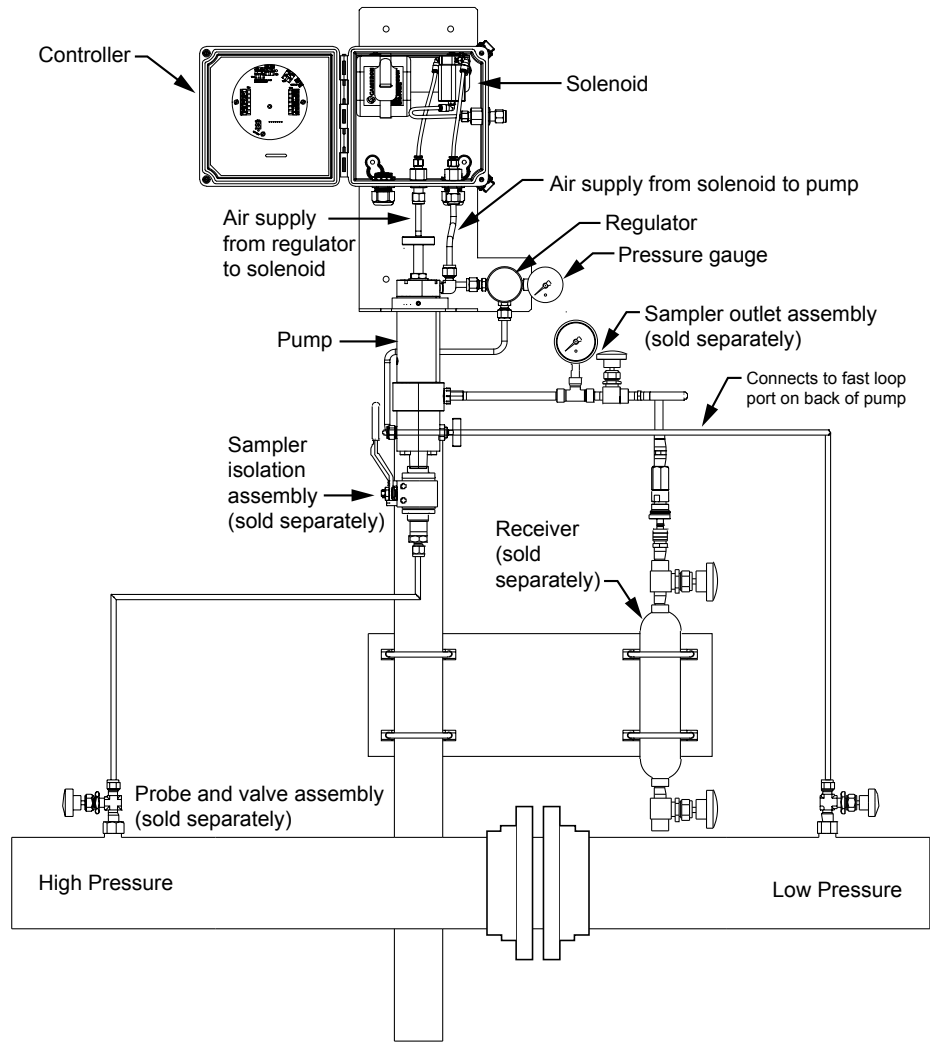

Figure 2.5—Remote-mount installation, shown with optional fast-loop connections
7. If a fast loop connection is required, connect the reinjection line fitting in the side of the purge valve manifold to the low-pressure side of the orifice fitting in the pipeline as shown in Figure 2.5, page 15. See Figure 2.3 for the location of the fast-loop reinjection line fitting. Also see the LGS-1 Sample Pump User Manual, Part No. 9A-99104500147, for additional details.